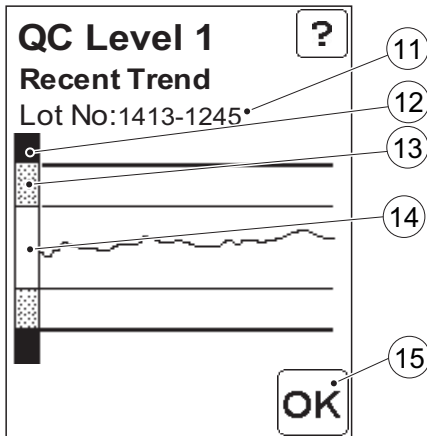

FIGURE 7-13
- To browse through the available records, use the scroll bar arrows (4).
- Depending on the operator's user level, comments can either be added, deleted or changed or just viewed, by pressing the Comment input button (8). See 4.1.3 *Entering Comments*.
- To view a graphic presentation of the most recent QC tests at the defined concentration level, press the Statistics button (9). *FIGURE 7-13* will be displayed.